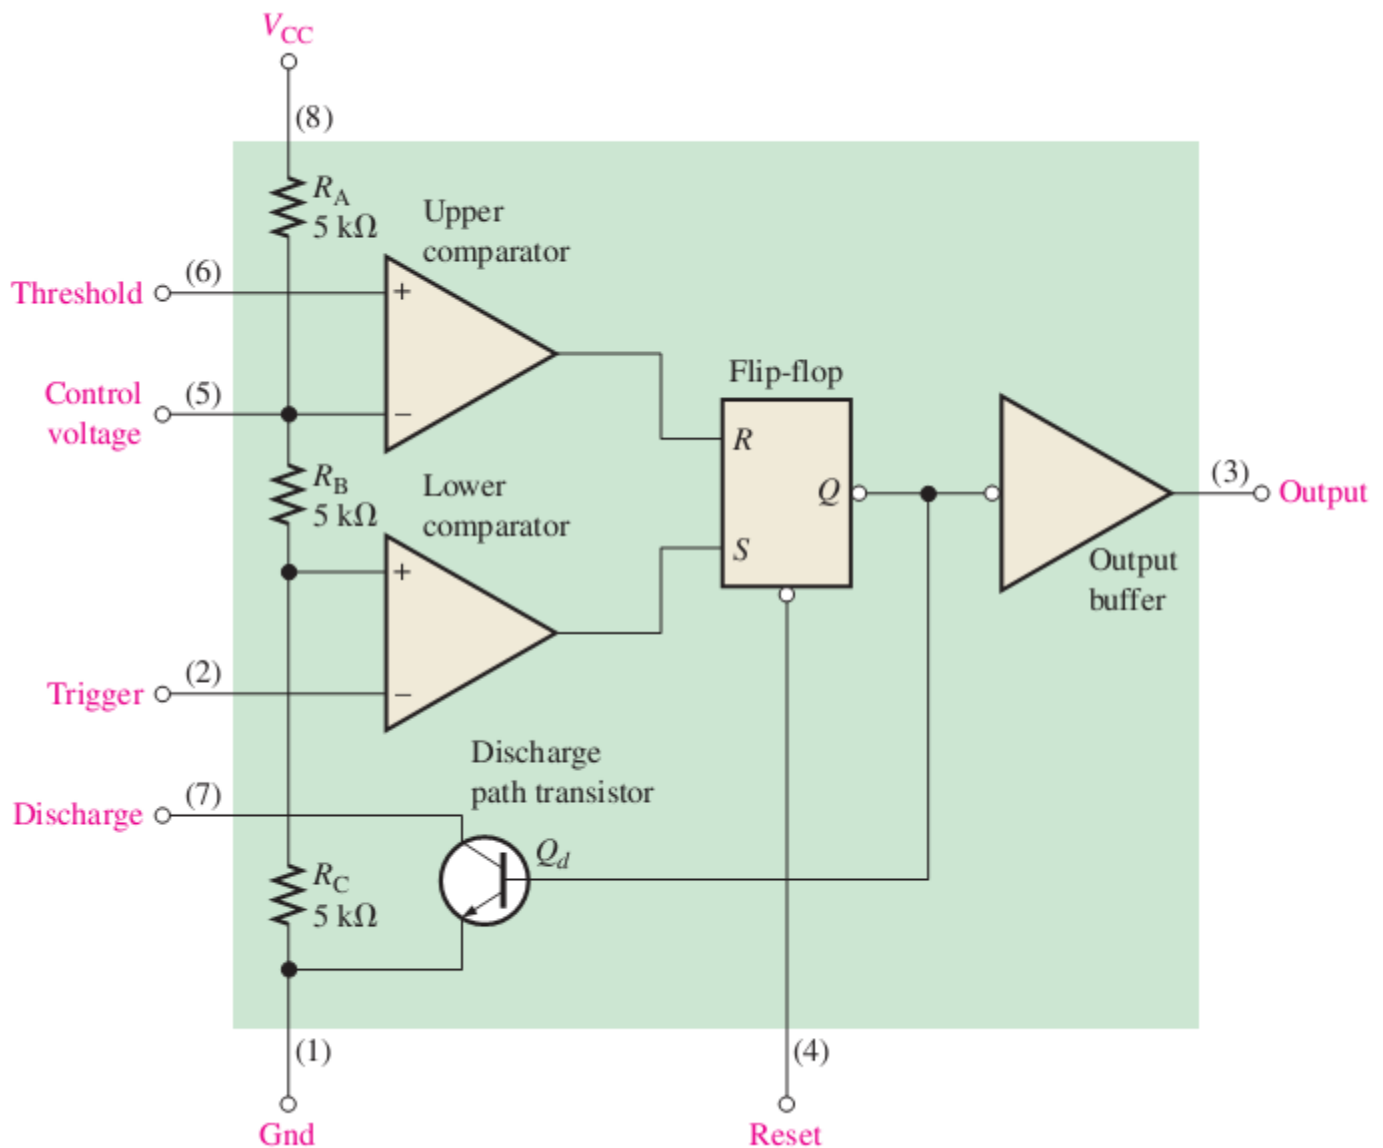

Figure 29 Internal diagram of a 555 integrated circuit timer. (IC pin numbers are in parentheses.)
- The 555 timer consists basically of two comparators, a flip-flop, a discharge transistor, and a resistive voltage divider, as shown in Figure 29.